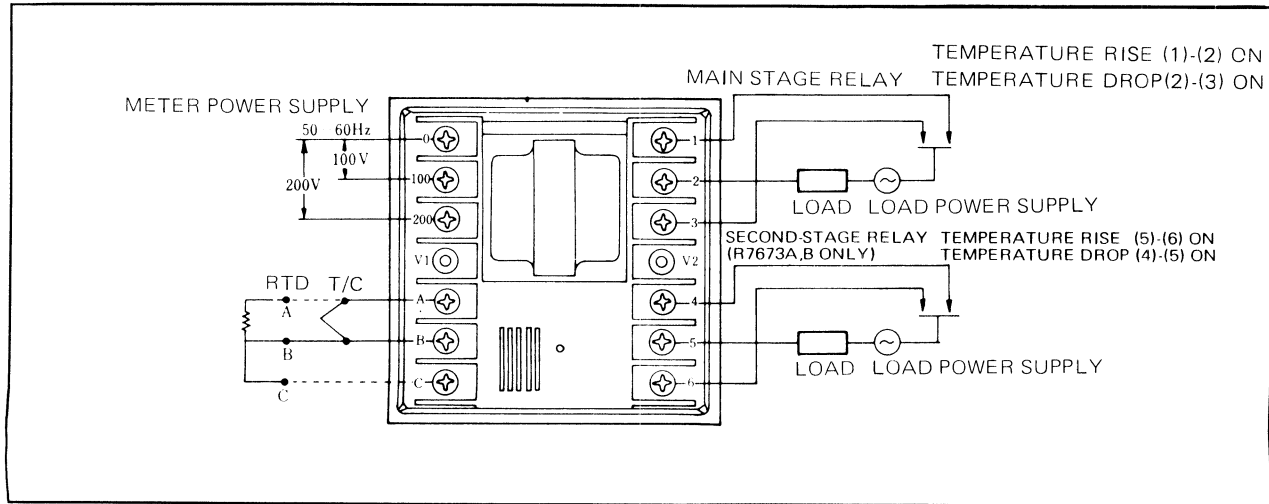

Fig. 2
(1) Use JIS C3307 600V vinyl-insulated wire having a conductor diameter of 0.5 mm to 1.25 mm and a finished outside diameter of 2.0 mm to 3.2 mm (AWG # 22 — # 16).
(2) Wire the instrument according to the external connection terminal symbols. Use solderless terminals. (See Figure 2.)